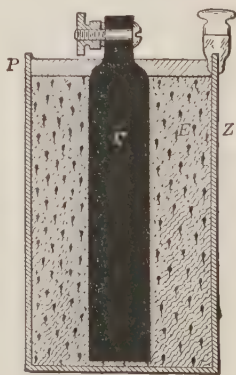

FIGURE 448. — DRY CELL
**303. Dry Cells.** — The dry cell, a modified form of the Leclanché cell, is used more than any other. The zinc of the dry cell (Figure 448) is in the form of a can, which serves as a container for the other parts. The zinc can (*Z*) is lined with absorbent paper, which is saturated with sal ammoniac solution. The carbon rod (*C*) is placed in the center of the cell, and the space between it and the can is filled with a mixture of manganese dioxide and granulated carbon, thoroughly wet with sal ammoniac, zinc chloride, and other chemicals. The completed cell